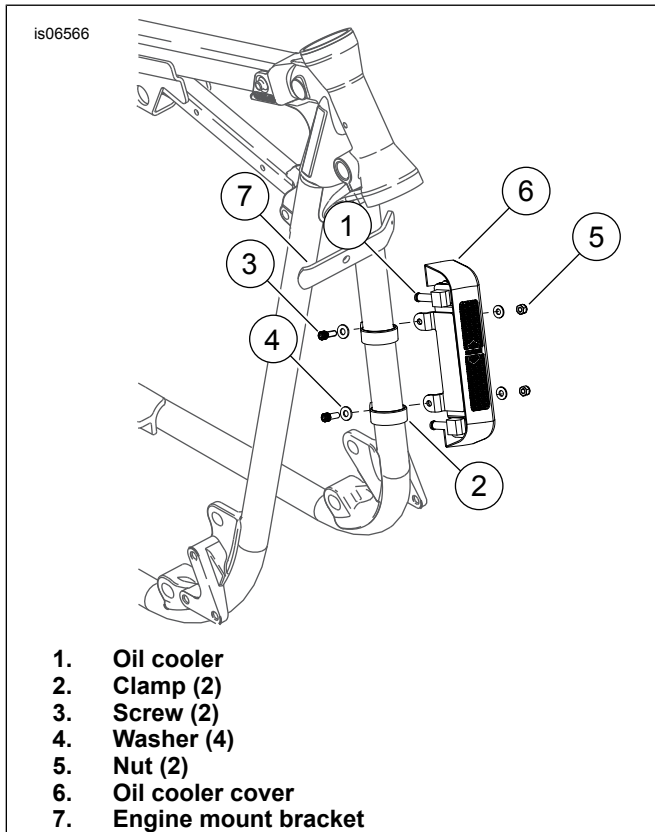

Figure 2. Mounting the Oil Cooler Assembly
1. See Figure 2. Install the oil cooler (1) to the left side downtube with two clamps (2), two socket head screws (3), four washers (4) and two nuts (5). Orient the clamps flat side outward and position upper clamp 6.50 inches from the bottom of the engine guard mounting bracket (7). Tighten screws to 10.2–13.5 N·m (96–120 in-lbs).